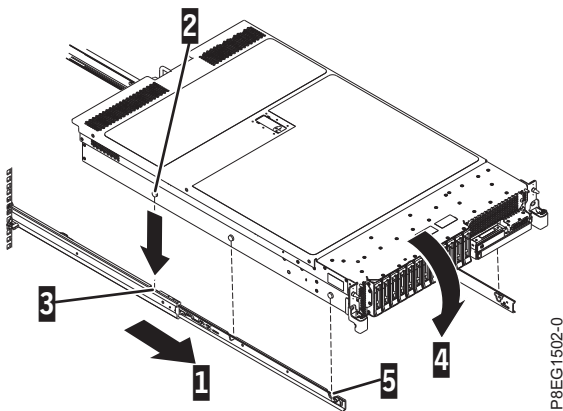

Figure 101. Extending slide rails and aligning server nail heads with the slots on the rail
- a. Extend the slide rails forward (1) until they click twice into place, if they are not already extended. See Figure 101.
- b. Carefully lift the server and tilt it into position over the slide rails so that the rear nail heads (2) on the server line up with the rear slots (3) on the slide rails. See Figure 101.
- c. Slide the server down until the rear nail heads slip into the two rear slots. Then, slowly lower the front of the server (4) until the other nail heads slip into the other slots on the slide rails. See Figure 101.
- d. Ensure that the front latch (5) slides over the nail heads. See Figure 101.